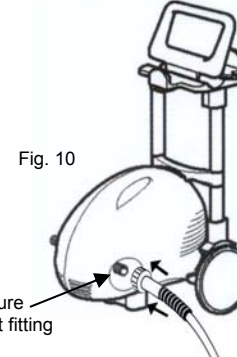

Fig. 10
1. While facing the front side of the unit attach the high pressure hose to the high pressure output connector on the right side of the unit. Twist on tight to avoid leakage. (Fig. 10)